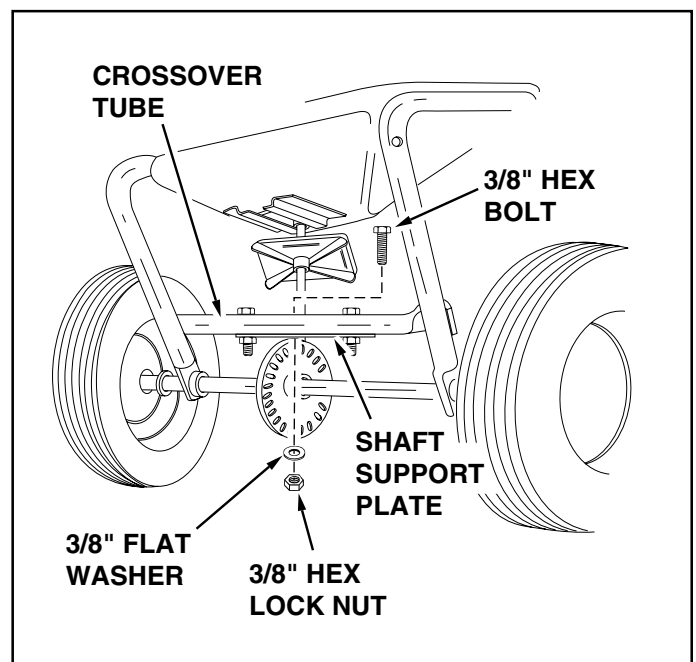

FIGURE 3
8. Remove the middle 3/8" hex bolt, flat washer and hex lock nut from the crossover tube. See figure 3.
9. Place the long handle tube onto the crossover tube on the **opposite** side from the shaft support plate. Fasten with 3/8" hex bolt, flat washer and hex lock nut removed in the previous step. See figures 3 and 4. **Do not tighten at this time.**